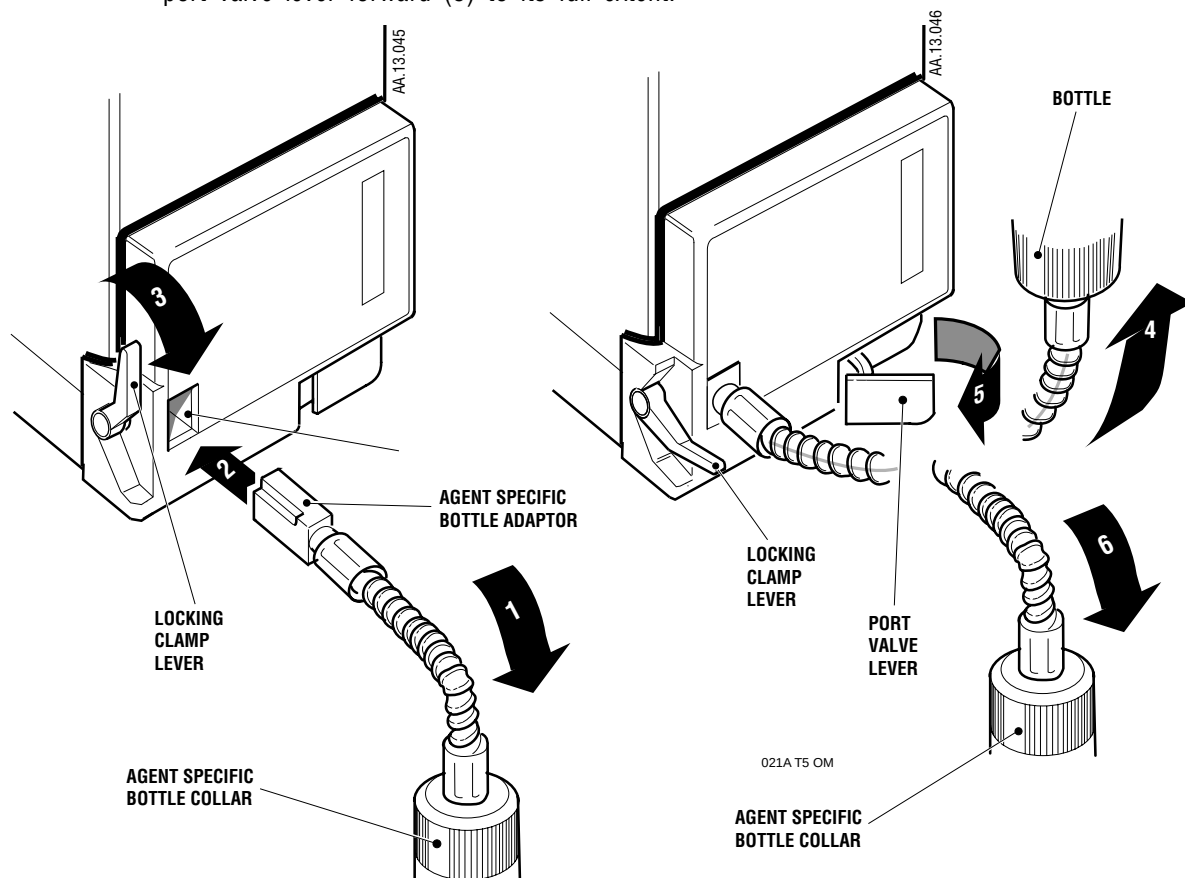

Fig. 8 Filling A Vaporizer Which Incorporates A Keyed Filler
2. Ensuring that the bottle (1) is held below the level of the end of the bottle adaptor and below the level of the filler port, insert the end of the bottle adaptor into the filler port (2) as illustrated on Fig. 8.
3. Tighten the locking clamp by pulling the locking clamp lever forward and downward (3) until the bottle adaptor is clamped.